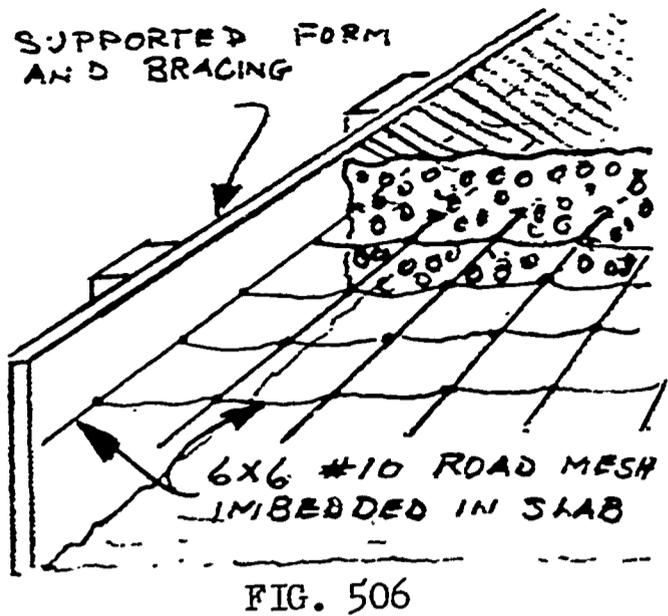

FIG. 506
1. Slab should be at least 4" thick, reinforced with 6x6-#10 road mesh. See figure 506.